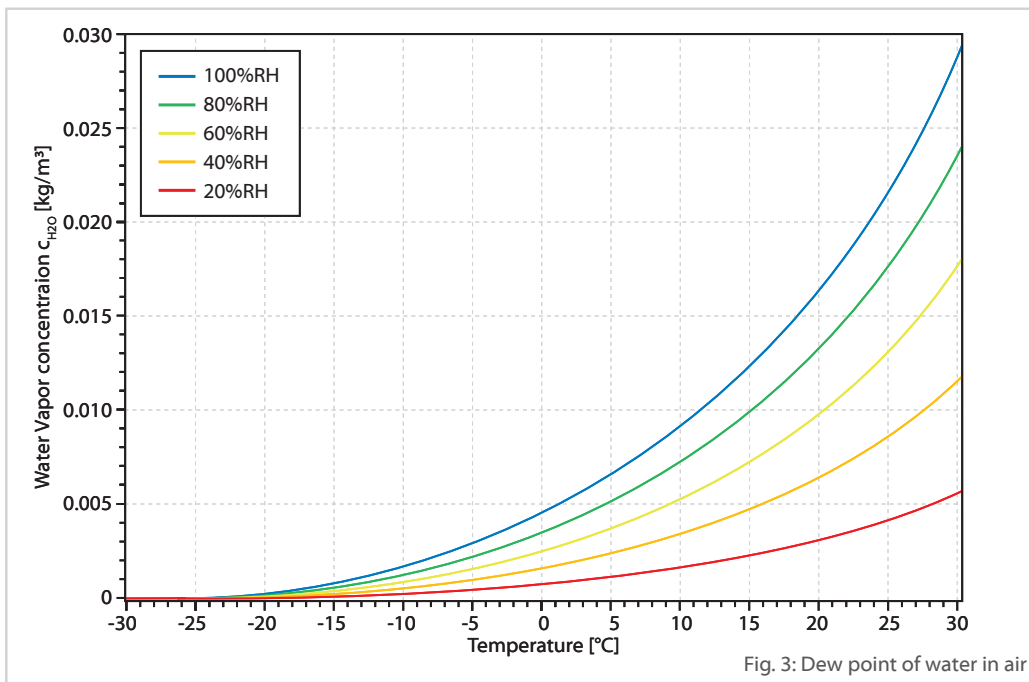

Fig. 3: Dew point of water in air
**If the relative humidity is between 0.1% and 100%, the water can exist in the form of water vapor.** If a relative humidity of 100% is reached and the ambient air is cooled down, the Dew Point (which defines the maximum amount of water, which the air can hold at a specified temperature, see Fig. 3) is exceeded and the water condenses from the air, in the form of liquid water. The residual is an equilibrium between liquid water and water vapor at the specific temperature.